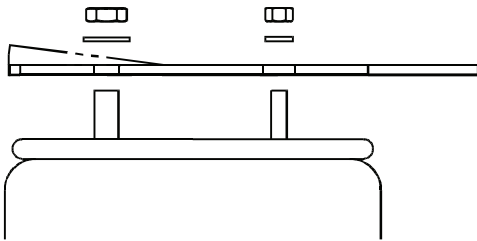

Figure 33 - Air Spring Upper Mount
2. Remove the nuts and washers from the upper air spring mount studs. See Figure 33.